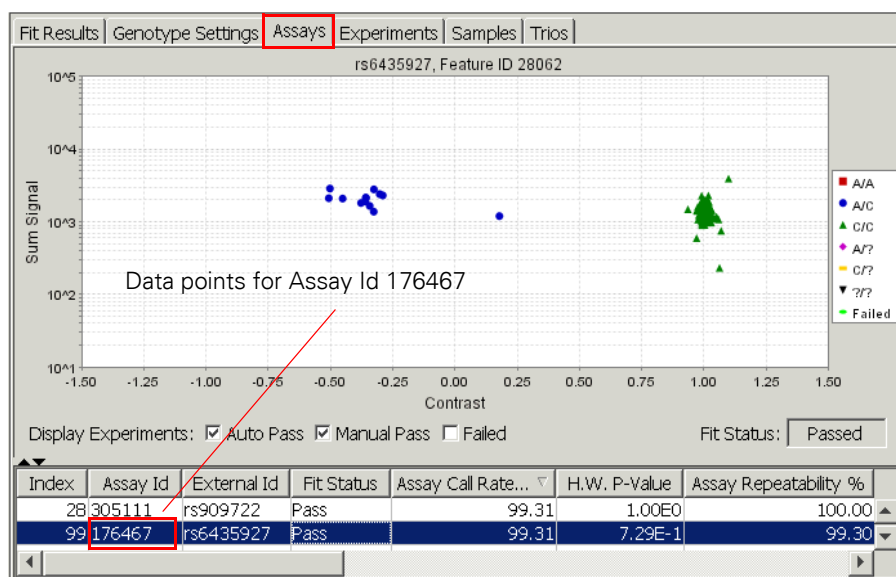

Figure 3.12 Data Points for One Assay
4. **Preliminary genotyping:** each validated data point for an assay (Figure 3.12) is assigned to one of up to three possible clusters (homozygous for allele 1, heterozygous, or homozygous for allele 2), but only if the assignment is unambiguous.